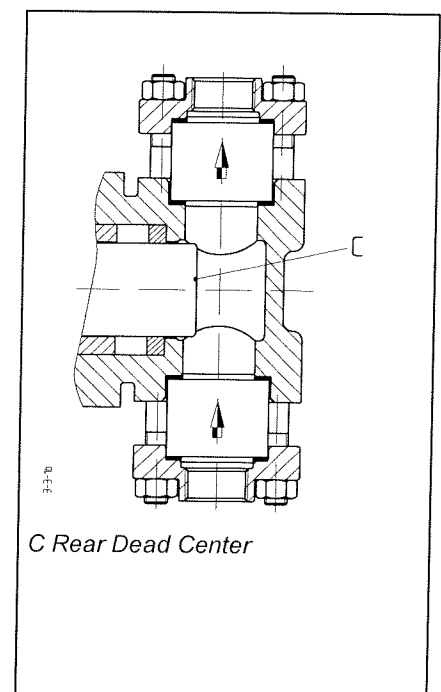

Fig. 3.2: Plunger at Rear Dead Centre
- Suction stroke:** Movement from front (A in Fig. 3.1) to rear dead centre (C in Fig. 3.2).
- Discharge stroke:** Movement from rear (C in Fig. 3.2) to front dead centre (A in Fig. 3.1).